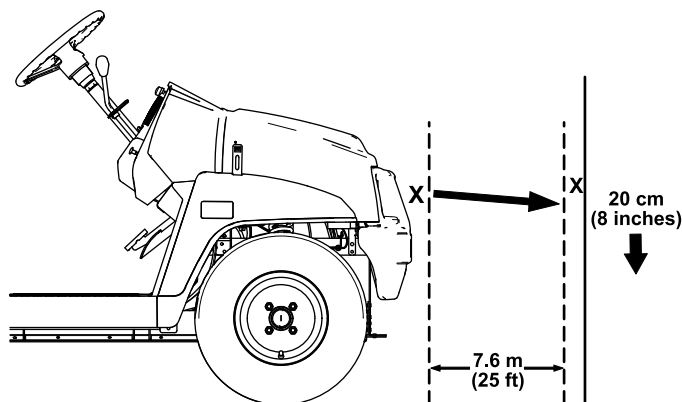

Figure 53
1. Park the machine on a level surface with the headlights approximately 7.6 m (25 ft) from a wall (Figure 53).
The brightest part of the headlight beam should be 20 cm (8 inches) below the mark placed on the wall (Figure 53).